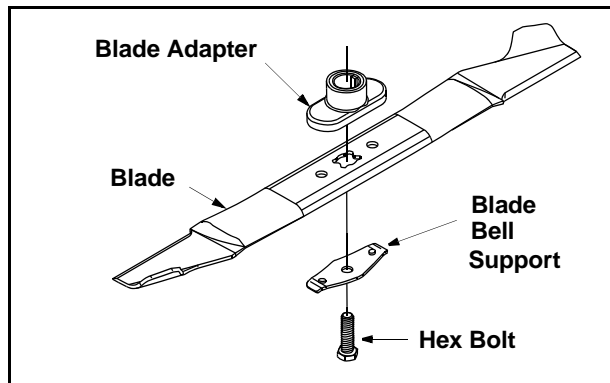

Figure 13
- Remove the bolt and blade bell support which hold the blade and adapter to the engine crankshaft. See Figure 13. Remove the blade and adapter from the crankshaft.
- Install the blade adapter on the crankshaft with the "star" away from the engine. Refer to Figure 13. Place the blade with the side marked bottom (or with part number) facing away from the adapter.